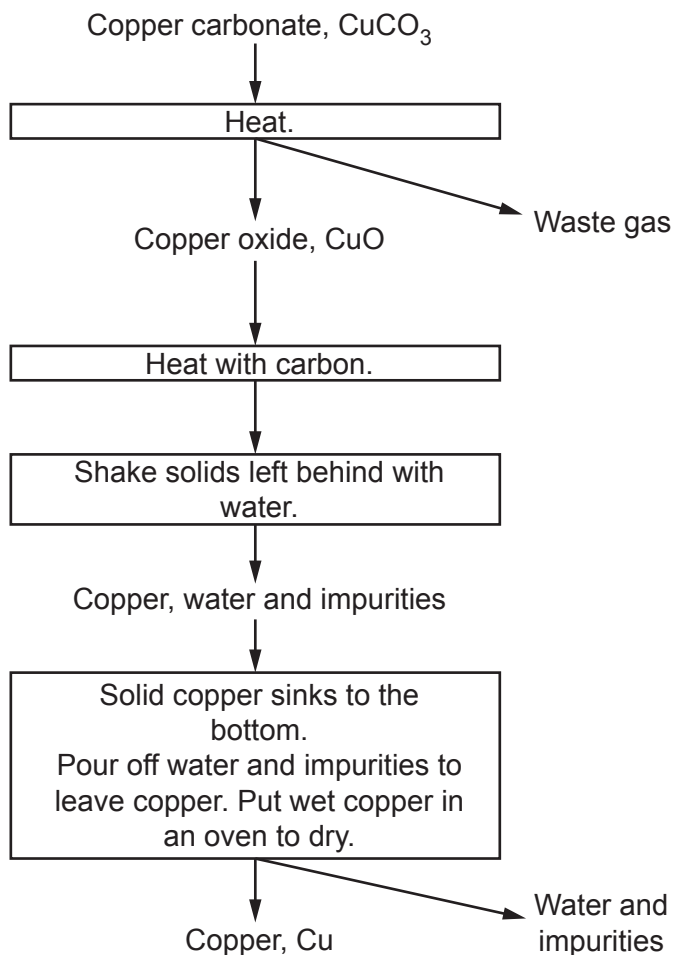

Fig. 5.1
The flowchart in **Fig. 5.1** shows how copper can be made from copper carbonate, either in industry, or on a small scale in the laboratory.
- (b) Copper made by the method in **Fig. 5.1** contains solid impurities.
- (c) Jane uses the flowchart in **Fig. 5.1** as a method in the laboratory.
I followed the flowchart (**Fig 5.1**), but I think some of my method could be improved to make sure I get the highest possible percentage yield.
Use the flowchart in **Fig. 5.1** to support your answer.